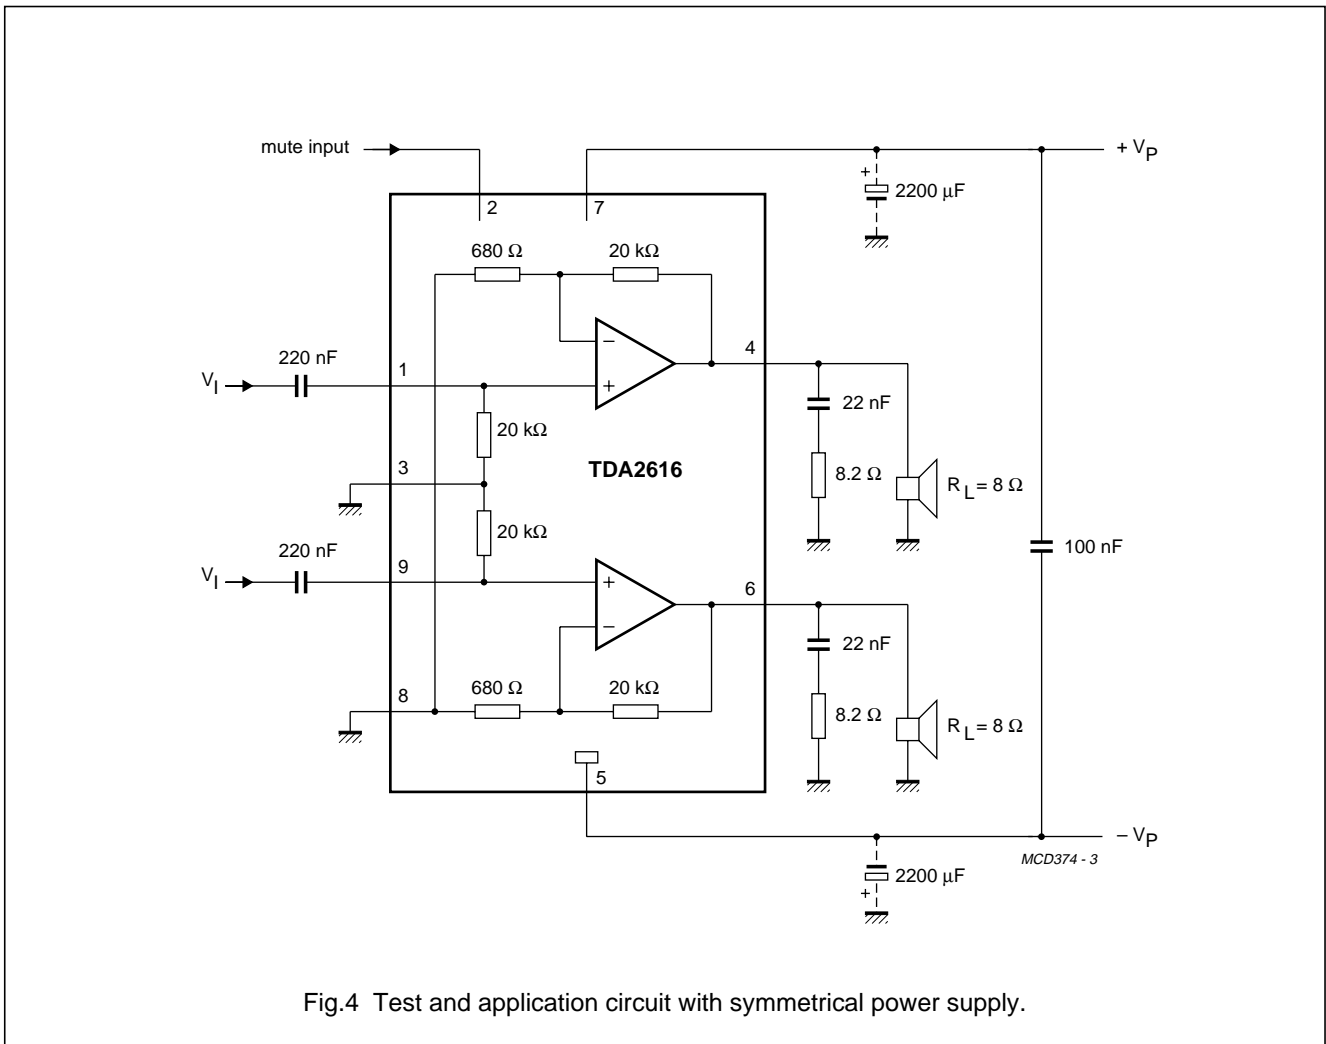

Fig.4 Test and application circuit with symmetrical power supply.
- $V_P = \pm 16 \text{ V}$; $R_L = 8 \Omega$; $T_{amb} = 25 \text{ }^\circ\text{C}$; $f = 1 \text{ kHz}$; symmetrical power supply $I_{MUTE} < 30 \mu\text{A}$. See Fig.4
- $\pm V_P = 4 \text{ V}$; $R_L = 8 \Omega$; $T_{amb} = 25 \text{ }^\circ\text{C}$; $f = 1 \text{ kHz}$; symmetrical power supply. See Fig.4